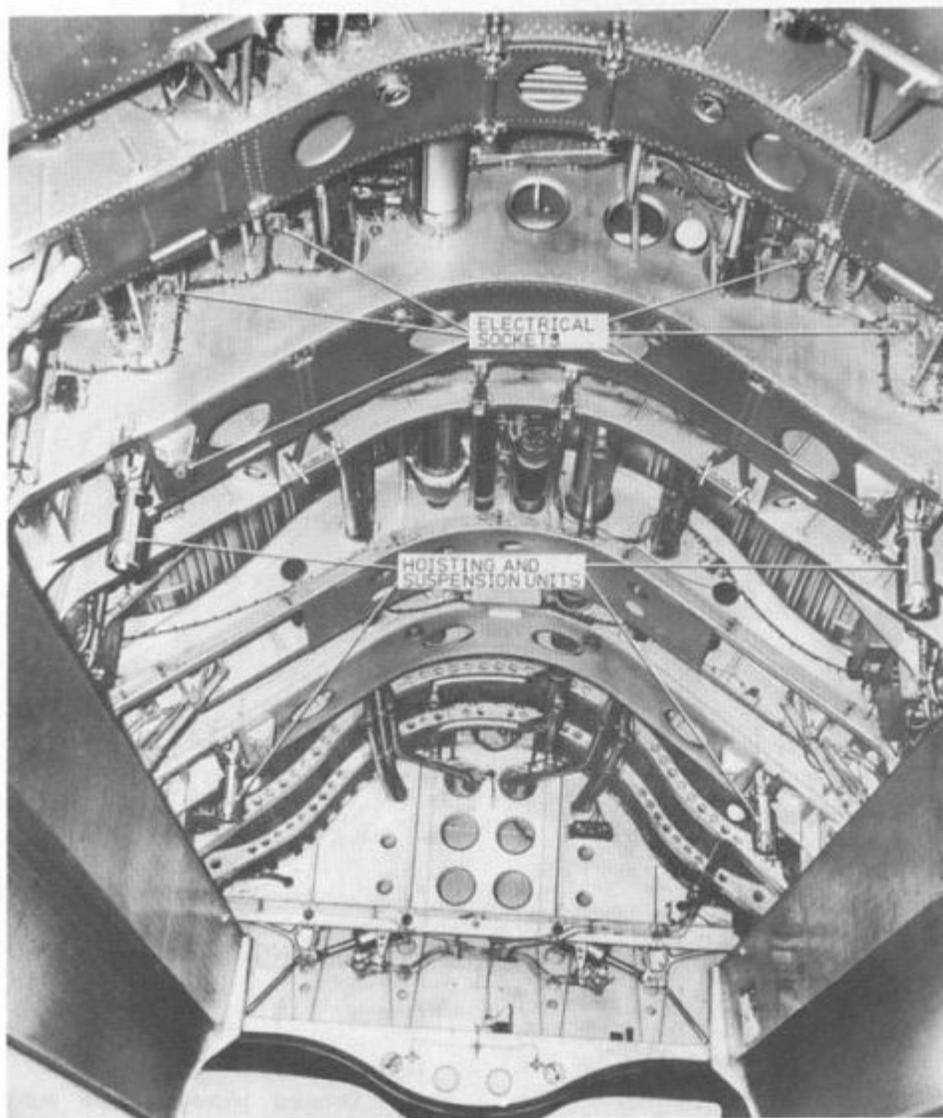

Fig 2 Inside the bomb bay
7. The units, in pairs, are installed at four loading points in the bomb bay, the distance between each unit (fig.2) of a pair being the width of the bay: a pair of hoisting and suspension units accommodates one bomb carrier.
9. Built into the bomb bay roof arch formation at each loading point are two electrical sockets (fig.2), one near each lateral extremity of the loading point. The sockets on